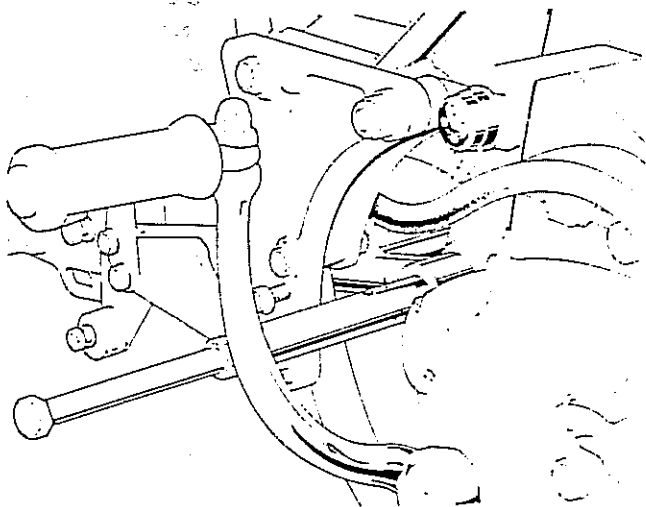

Fig. F8 Aligning swinging arm spindle with swinging arm bore
- 25 Using a suitable bolt with locknut screwed into the right end of the swinging arm pivot spindle, position the lock screw hole upwards to align with the pivot tube hole (see Fig. F8). Align the pivot spindle with the swinging arm bore and push fully home.